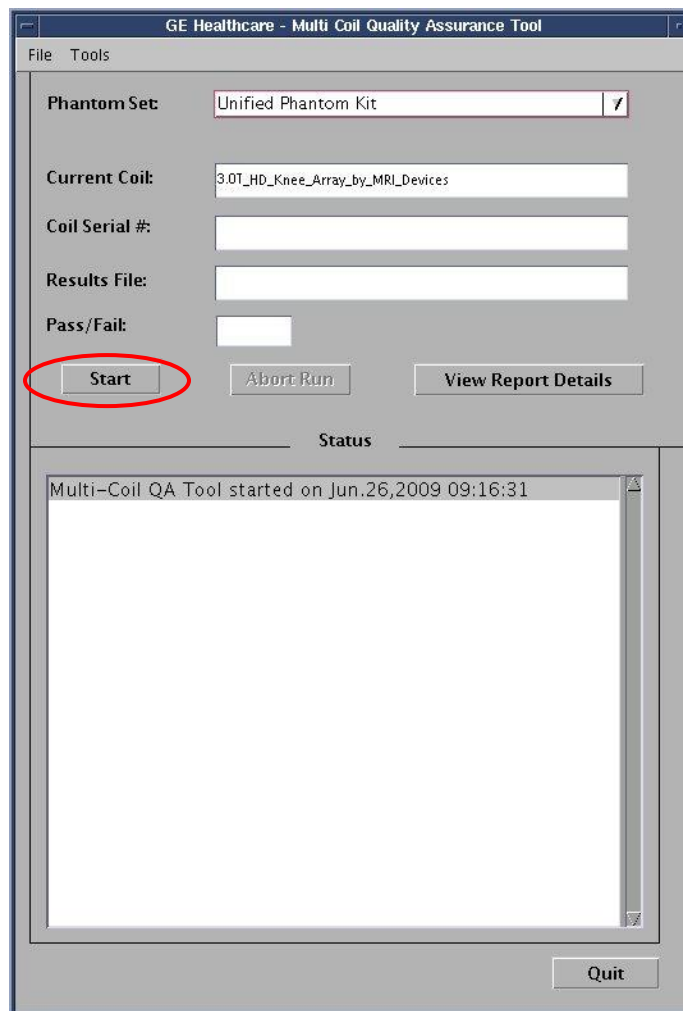

Figure 36
6. Click on **[Start]** to begin the automated test as shown in Figure 36 Depending on the number of test locations (complexity of the coil) the test may take from 3 to 20 minutes.